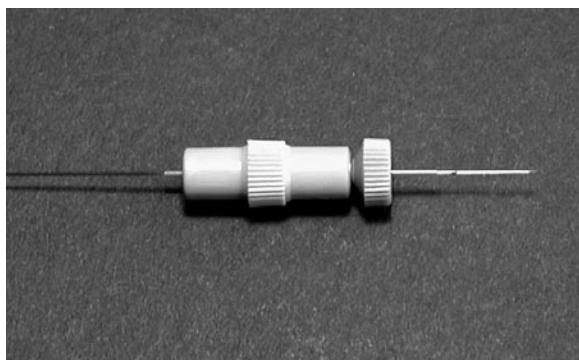

Figure 5.16: PicoFrit® column loaded into MicroTight union
past the end of the fitting when it is tight. This will afford optimal positioning of the tip within the adjustment range of the stage plate. Using a ruler, measure and note the distance the tip extends from the fitting. Gently move the PicoFrit until the tip extends 15–20 mm past the end of the fitting. Finger-tighten the compression fitting to hold the tip in place. Figure 5.16 shows a correctly loaded union.
- 1) Being careful not to put mechanical stress on the fused-silica tubing, insert the MicroTight union into the recessed area of the tip holder. Tighten the tip holder finger screw. (Figure 5.16).